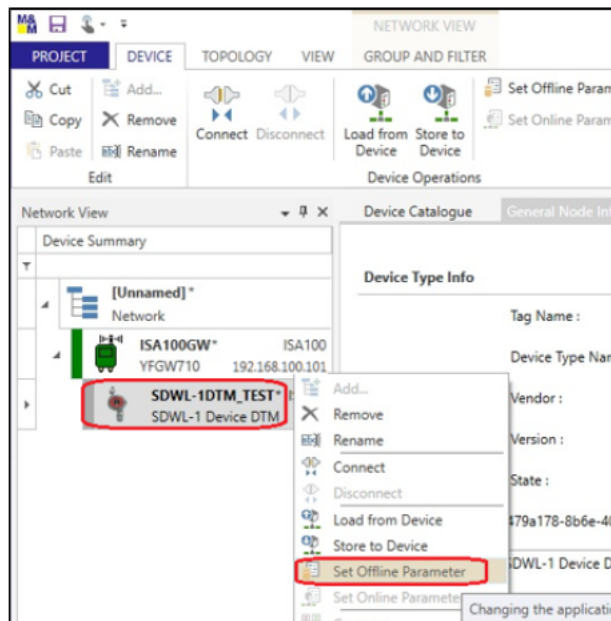

Figure 5-53 Selecting "Set Offline Parameter" menu
- ① Follow the instructions in the previous section (for launching online) as far as step ①.
- ② Right-click the SDWL-1 (tag name) in the tree menu on the left side of the main window, then select "Set Offline Parameter". (Figure 5-53)